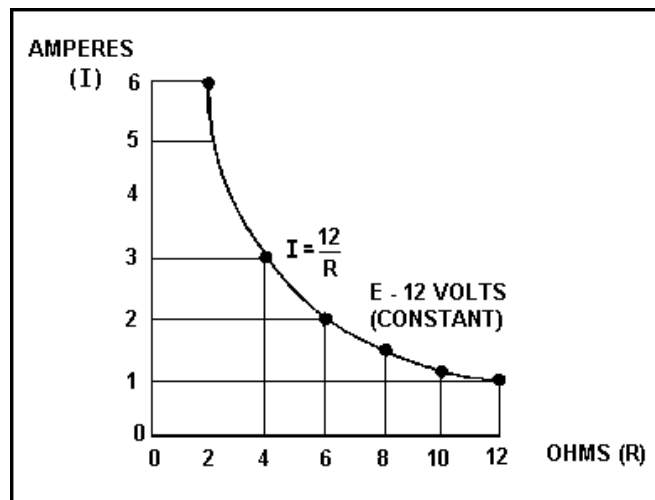

Figure 3-8.—Relationship between current and resistance.
When the voltage across a load is held constant, the current depends solely upon the resistance of the load. For example, figure 3-8 shows a graph with the voltage held constant at 12 volts. The independent variable is the resistance which is varied from 2 ohms to 12 ohms. The current is the dependent variable. Values for current can be calculated as:
- Q8. Using the graph in figure 3-8, what is the approximate value of current when the resistance is 3 ohms?*